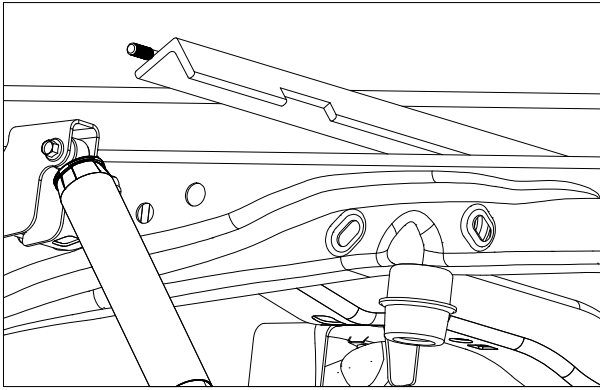

Figure B1: View looking into driver side wheel well.
1. **Place rear cross member.** Select the rear cross member that is notched on one side. With the long (2-1/2") side of the angle iron pointing down and the short (2") side with the notches facing the rear of the truck, position it across the top of the frame rails, between the bed and frame, by pushing it through the opening in the wheel well on the driver's side of the truck, see Figure B1. Make certain that the notches fit tightly against the truck bed cross member on the back of the truck.